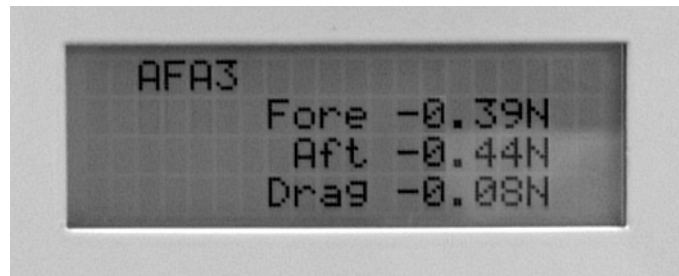

Figure 14 Display in Calibration Mode
6. On the display module, press and hold the 'zero' button. At the same time, switch on the power. Wait a few seconds for the unit to settle. The display is now in the calibration mode (see Figure 14). It will show the individual readings from the load cells as 'FORE', 'AFT' and 'DRAG' (the display normally shows lift, drag and pitching moment).